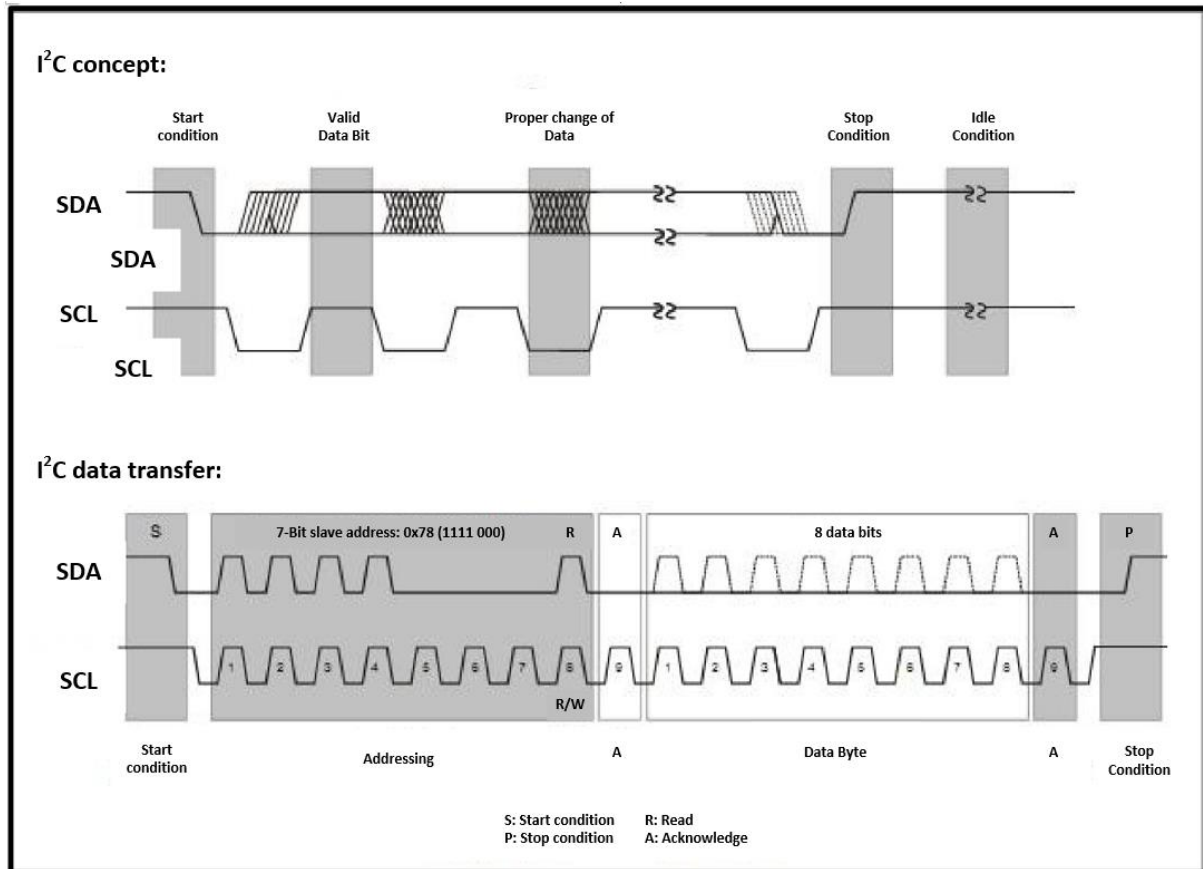

Figure 3. I2C Standard communication protocol
I²C standard protocol is showed in **Figure 3**.
- **START condition (S):** Each data transfer starts with the start condition, which is always sent by the master. This start condition acts as a signal to all I²C connected devices giving information that there will be something transmitted. The start condition is defined as a transition from HIGH to LOW on the SDA line when the SCL line is HIGH (see **Figure 3**).
- **STOP condition (P):** Each data transfer stops with the stop condition, which is also generated by the master when a data transfer has finished. Stop condition is defined as a transition from LOW to HIGH on the SDA line when the SCL line is HIGH (see **Figure 3**).
- **Valid data:** Data is always transmitted in bytes (8 bits) starting with the MSB (most significant bit). One data bit is transferred with each clock pulse. Transmitted data are valid (after generating start condition) only during HIGH period of clock and data changes can be done during LOW period of clock (see **Figure 3**).
- **Acknowledge (A):** Each sent byte needs to be followed with the acknowledge bit generated from the receiver that correct data has been received. Acknowledge means also that device can continue with further data transfer. For that purpose, the master must generate extra clock pulse. The transmitter releases clock HIGH during acknowledge clock pulse, if not then further bytes will not be sent.
- **Slave address:** After the start condition, the master sends the addressing byte - slave address to define with which slave device he wants to communicate. This addressing byte includes 7-bit slave address (up to 128 devices) + 1 R/W bit (data direction bit). If R/W bit is set to “0” (W) then master wishes to transmit data to the selected slave. If R/W bit is set to “1” (R) then the
Figure 3 shows a complete data transfer. After generating the start condition, the master also sends the slave address with data direction bit (R/W), which gives read or write transfer. The addressed slave replies to this request always with the acknowledge (A) first. Now, unlimited numbers of data (bytes) can be transferred, which needs to be always confirmed with the acknowledge bit. This transfer can be stopped by the master by generating the stop condition. If master wishes to communicate also with another slave address, then can generate a second start condition without stopping the first one.